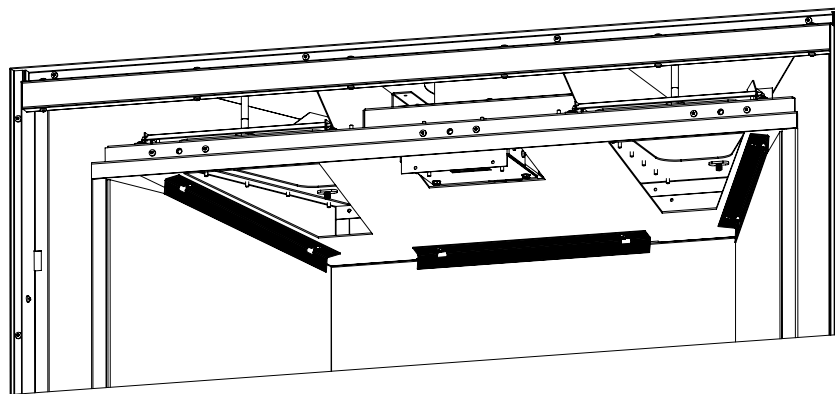

Figure 79: Liner Retainers
Step 3. Remove the liner retainers one at a time using a 5/16 socket. The screws only have to be loosened, not completely removed, as the retainers are slotted. Remove the side liners first, then the rear (see Figure 79).